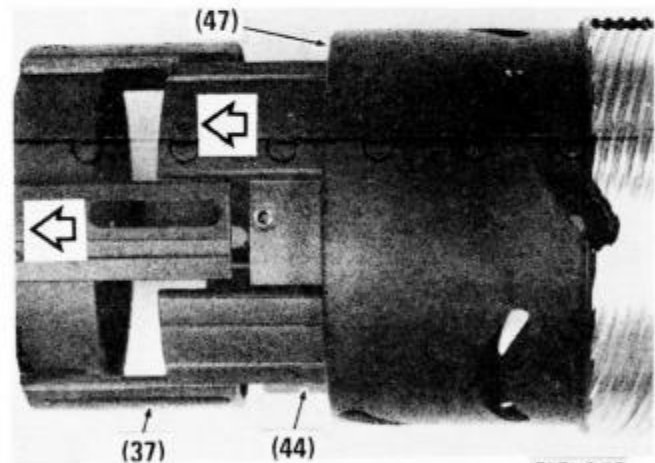

FIG. 4-16
d) Slide 2nd lens group slide housing (37) and 3rd lens group slide housing (44) out front of inner helicoid (47). Fig. 4-16.
- c) Insert the slide housings into inner helicoid so that third lens slide housing (44) enters inner helicoid first. Fig. 4-16.